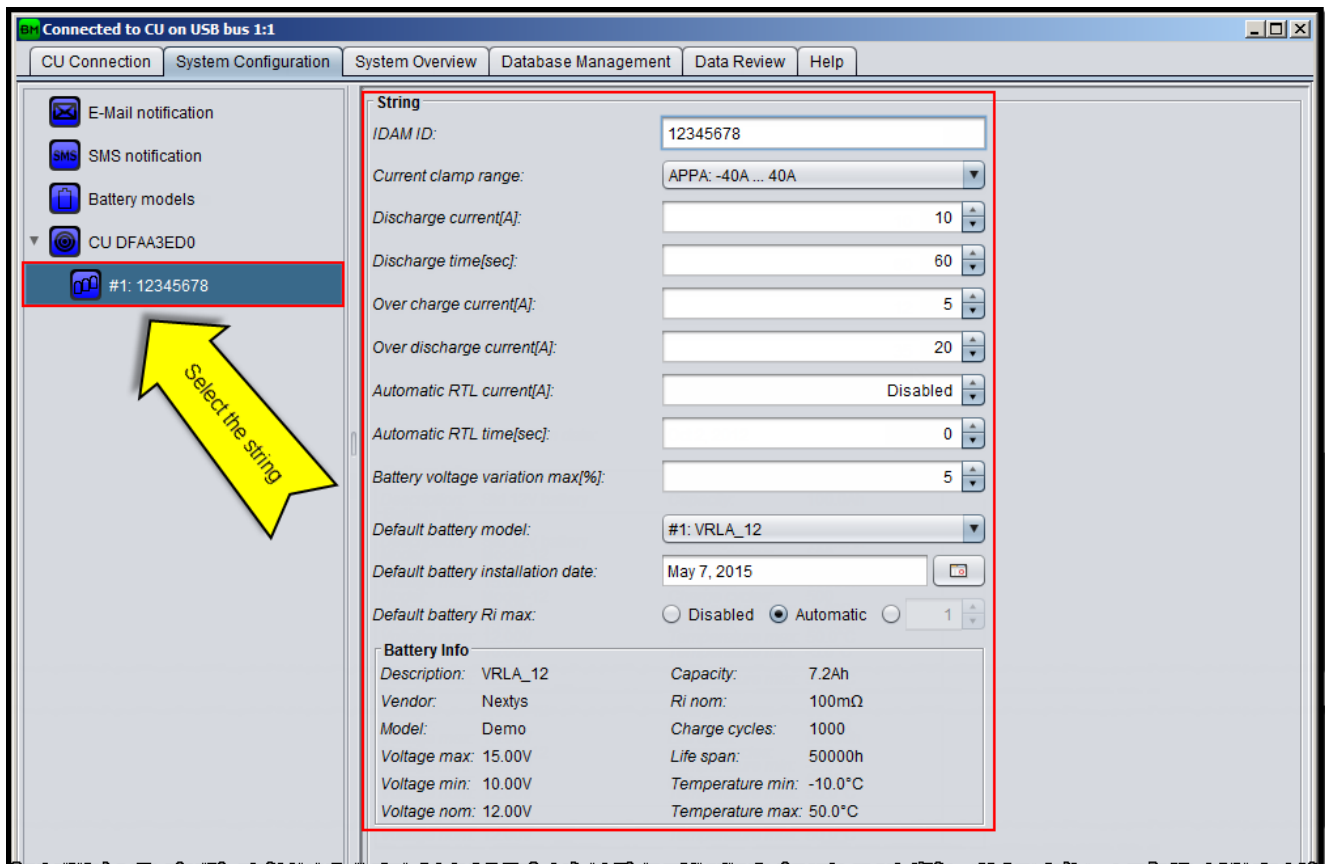

Figure 27: String configuration
2. Select the added string icon as shown in Figure 27 and fill in the following fields:
4. Select the added string icon as shown in Figure 27 and fill in the fields as explained in §7.4.1.